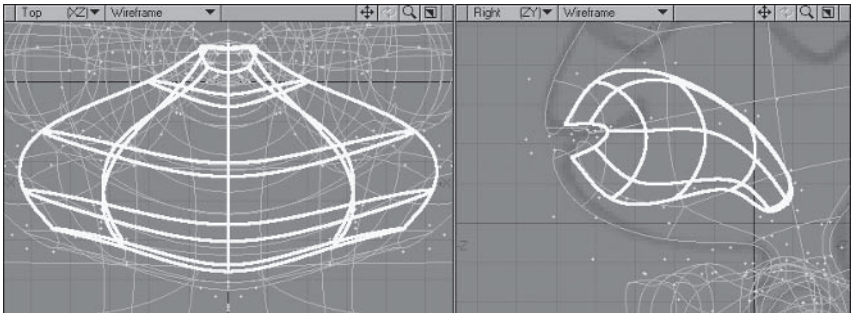

Figure 3.3-11. Creating the inside of the mouth.
- 6. **Super Shift** three more times, and **Move**, **Rotate**, and **Stretch** each time so what you end up with matches Figure 3.3-11.